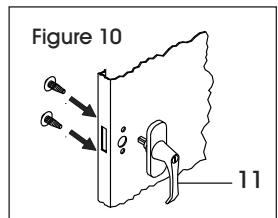

Figure 10
1. Place the locking handle (11) on the righthand door and fasten with two #8-32 x 1/4" slotted hex head bolts and lockwashers. (See Figure 10)